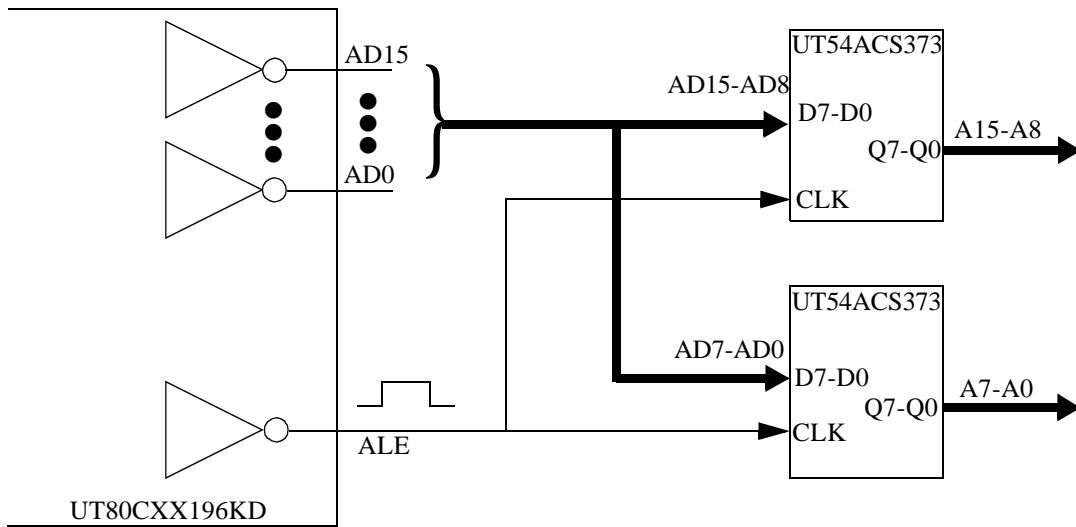
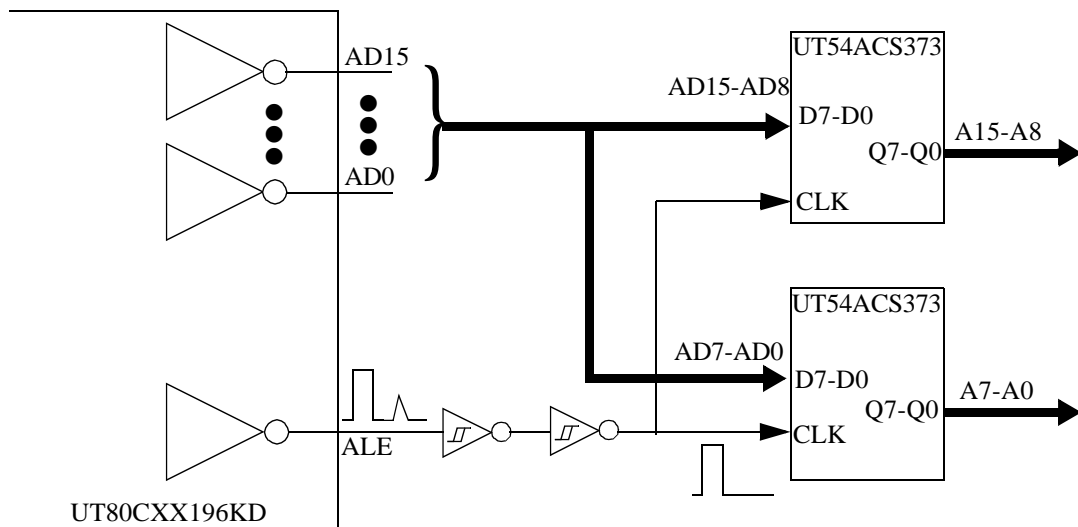

Figure 1. Typical Address/Data Bus Demultiplexing Scheme
Figure 2. Address/Data Bus Demultiplexing Scheme with Schmitt Trigger ALE Filter
7. Use a schmitt trigger buffer or inverter pair to filter the ALE signal provided by the UT80CXX196KD used for the Address/Data bus demultiplexing latch clock. The positive going threshold voltage on a schmitt triggered input is higher than a CMOS or TTL threshold. Therefore, a typical ALE glitch seen on the UT80CXX196KD output will be filtered before it reaches the clock input of the Address/Data bus demultiplexing latch. Figure 1 shows the standard ALE usage, and Figure 2 shows the schmitt trigger ALE filtering scheme for demultiplexing the Address/Data bus.